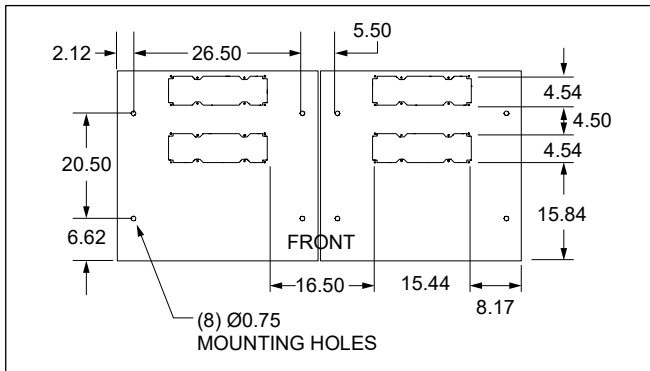

Figure 11
- Figures 11 through 14 show the required conduit openings and mounting hole dimensions for entering/mounting the bottom of the bays. Use these dimensions when designing the pad. A 2-bay mounting example is shown in all figures.